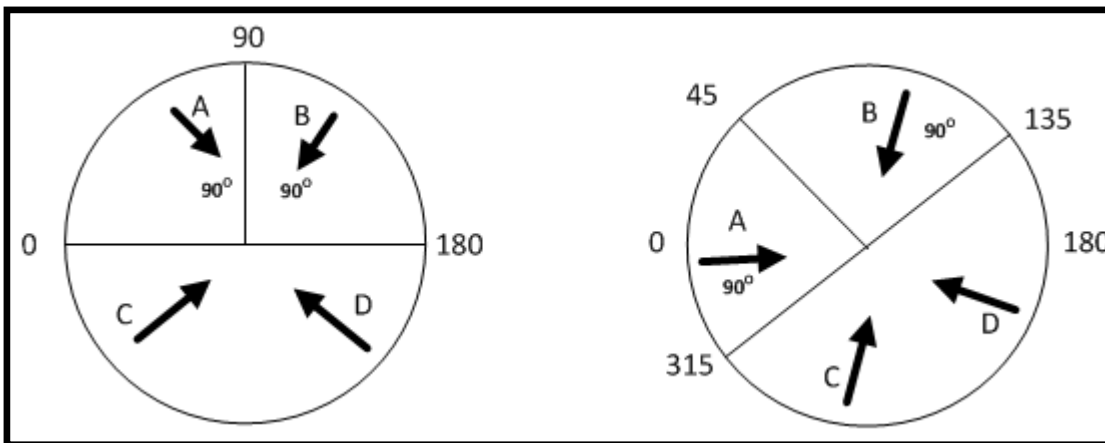

Figure 6: Wind Direction Sensor Definition
The number entered here defines the area on both sides of the sensor! Figure 6 illustrates a chicken house with four wind sensors. Sensor 1's Wind Direction parameter is defined as 45° or 90° total. Winds that come within this area (A) are used for Natural Programing. The controller disregards winds outside of this area (B & C).